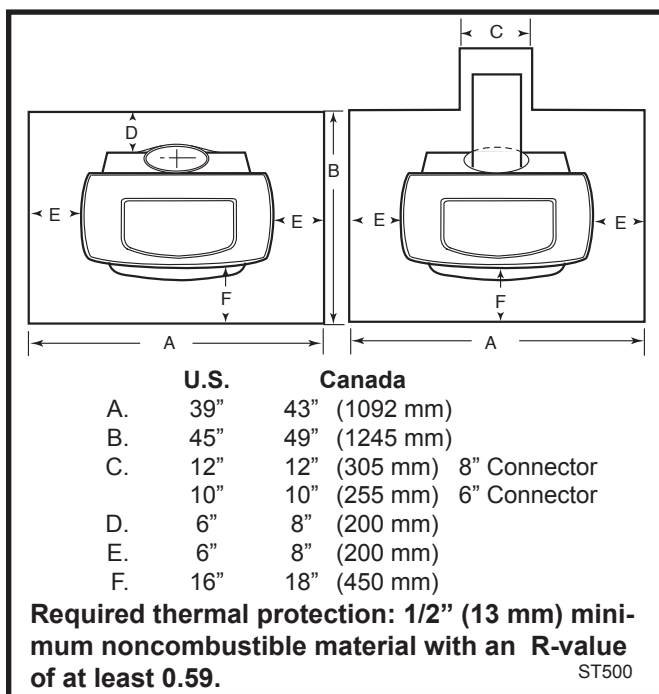

Fig. 12 Required floor protector dimensions for both top- and rear-exiting stove.
U. S. installations the floor protector is required under the stove and must extend at least 16" (not including the ash lip) from the front of the stove ("F", Fig. 12), and at least 6" from the sides and rear. ("D" and "E", Fig. 12) It must also extend under the chimney connector and 2" to either side. ("C", Fig. 12) For the 8" (203 mm) connector, the protector must be a minimum of 12" (305 mm) wide. For the 6" (152 mm) connector, the protector must be 10" (254 mm) wide. The protector must be centered under the connector.
In Canada: A noncombustible floor protector is required under the stove as well. The floor protector must extend 18" (450 mm) to the front ("F", Fig. 12), and 8" (200 mm) from the sides and rear. ("D" and "E", Fig. 12)
Floor protection also must extend under the chimney connector and 2" (51 mm) to either side. ("C", Fig. 12) For the 8" (203 mm) connector, the protector must be a minimum of 12" (305 mm) wide. For the 6" (152 mm) connector, it must be at least 10" (254 mm) wide. The protector must be centered under the connector.